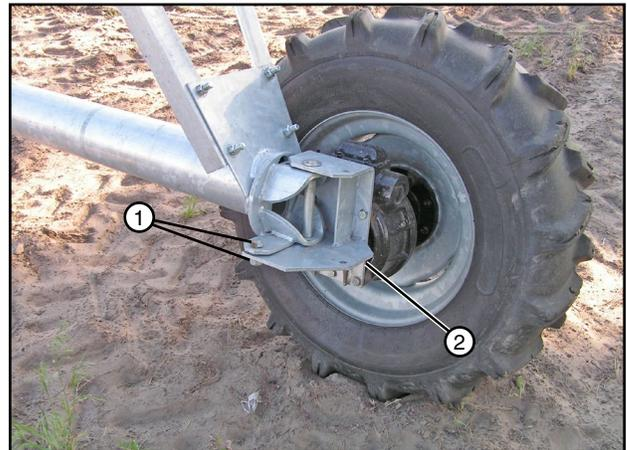

Figure 39-1 Operation Position
7. Secure gear box mount in the operating position with the original hardware. See figure 39-1.